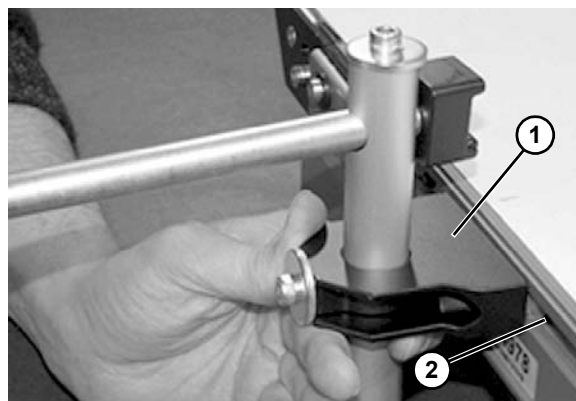

Figure 76
1. Install guide bracket assembly (Figure 76, item 1) into the conveyor T-slot (Figure 76, item 2).